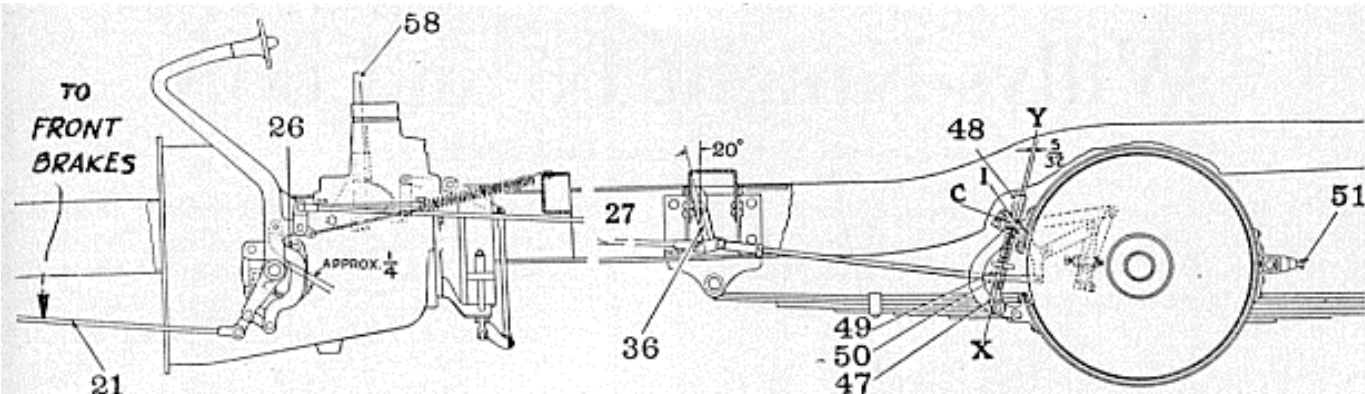
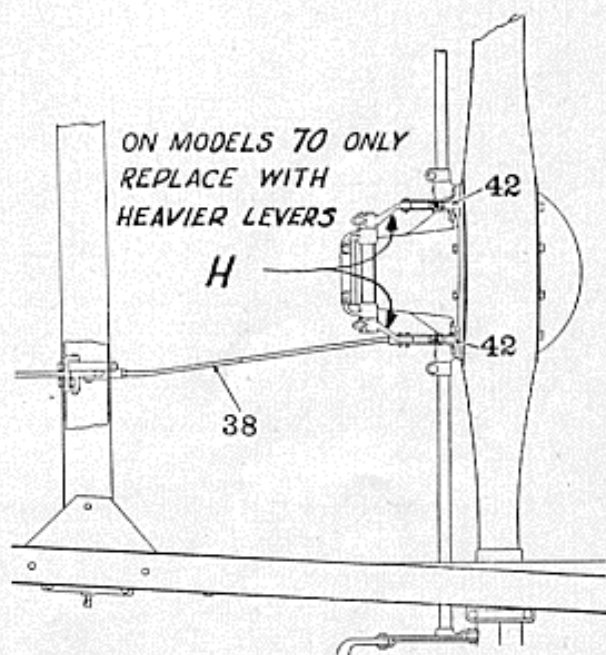

Fig. 1—Side view pedal and rod linkage of model 70A
Fig. 2—Top view rear rods and levers
1. Before adjusting clearances disconnect the rear pull rod (38) so that rear camshaft levers (42) take their natural position due to adjustment. See Fig. 2.
2. Adjust anchor screw (51) to get .010-.015 clearance. Adjust lower half of band to .025-.030 in. clearance by means of nut (49). Adjust upper half to same clearance by means of top adjusting nut (48). Check position of band operating lever (C) at each rear wheel. The top eye of this lever should stand  $\frac{5}{32}$  in. back of the center line (X-Y) of band adjuster bolt (47). See Fig. 1. Adjust the stop screws (42, Fig. 2) to get this position.
A—Some of the early model 70 cars are not provided with the adjustable stop screws (42) on the rear camshaft levers. To secure correct angle of the band operating levers (C Fig. 1) use the top and bottom band clearance adjusting nuts (48 and 49).
If chronic trouble is experienced with the rear brakes on model 70 cars it will be advisable to secure heavier rear countershaft levers indicated at H in Fig. 2 from the Willys-Overland Co. Inc., at Toledo, Ohio.
4. Rear Pull Rod—Before reconnecting rear pull rod (38, Fig. 2) observe position of rocker shaft lever (36, Fig. 1). With brakes released and
rear camshaft levers against their stops (42, Fig. 2) it should have an angle of 20 deg. Adjust clevis on end of pull rod 38 to get this setting.
7. Equalizer Yoke—Adjust pedal stop so that pedal clears floorboards, then check equalizer yoke (26 Fig. 1) which should clear the brake pedal hub by  $\frac{1}{4}$  in. If it does not clear hub by this amount, disconnect front brake pull rod (21) and pedal rod (27). Set yoke to correct position then adjust clevises on rods (21 and 27) so that clevis pins can be inserted without moving equalizer yoke or any of the rod levers front or rear.